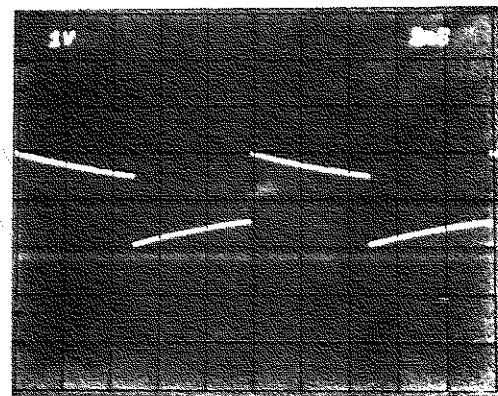

FIGURE 5-4. TYPICAL LOW FILTER OUTPUT
3. Observe typical output square wave (Figure 5-4) on oscilloscope.